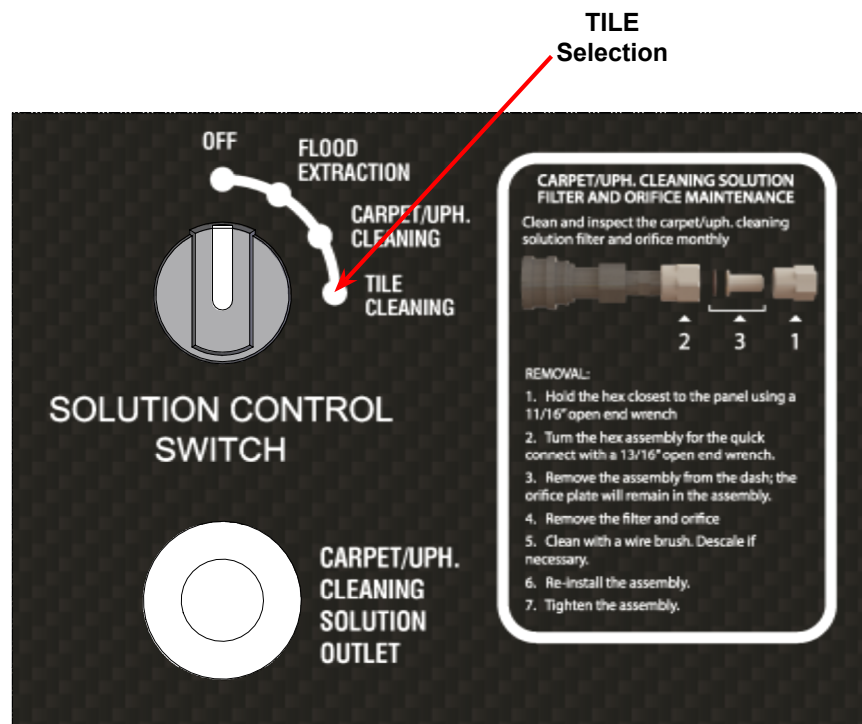

Figure 2-3. Select "TILE" on Solution Control Switch
6. Select "TILE CLEANING" on the Solution Control switch (see Figure 2-3).